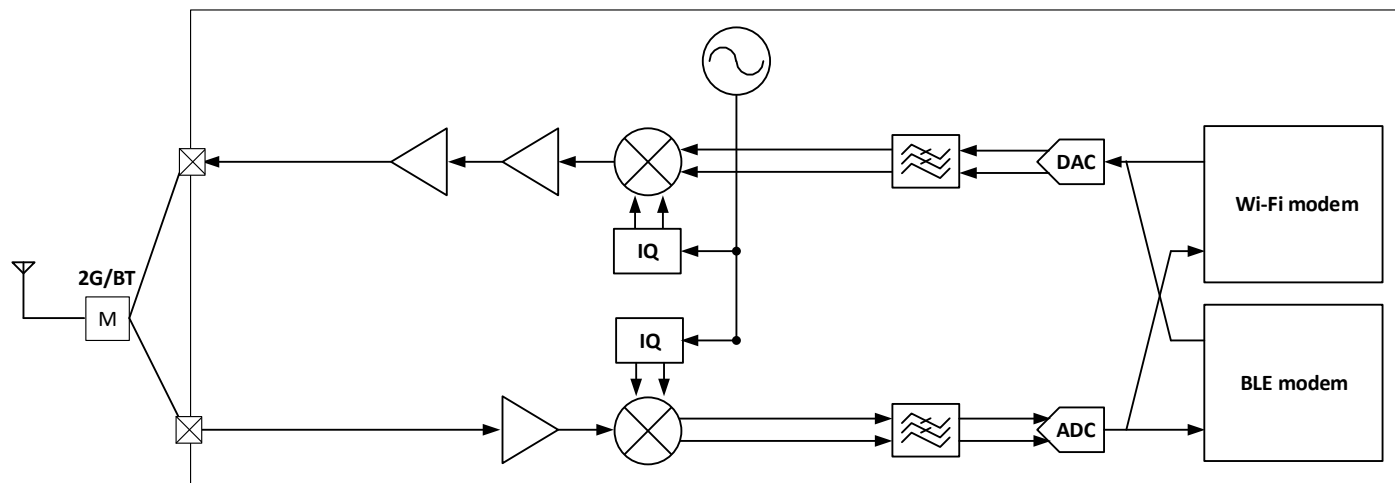

Fig 6-1 RF block diagram
The radio frequency (RF) block diagram of RTL872xCS, including Wi-Fi and BLE modem, is given in Fig 6-1.